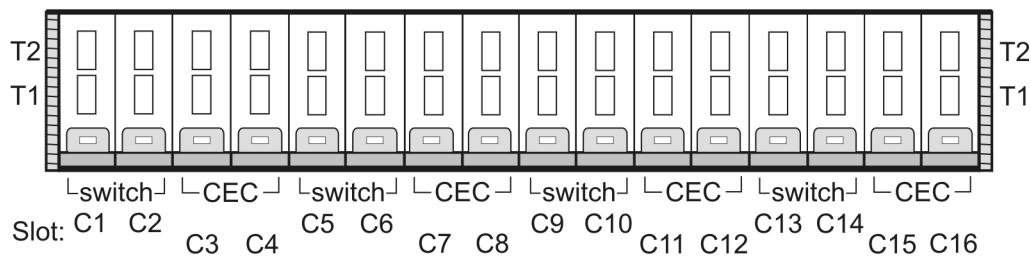

Figure 58. NSB Switch Port Connection card slot identification
- If your system has two or more NSBs on a switch network, all switch-to-switch slots on the NSBs must be populated with SPC cards (refer to Figure 58 on page 319).